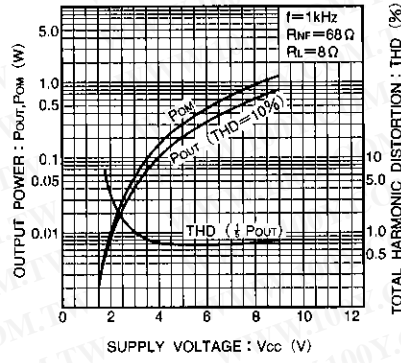

Fig. 2 Rated and max. output power and total harmonic distortion vs. supply voltage
- 1) High output. POUT = 330mW ( $V_{CC} = 6V$  and an 8  $\Omega$  load (THD = 10%). See Fig. 2.